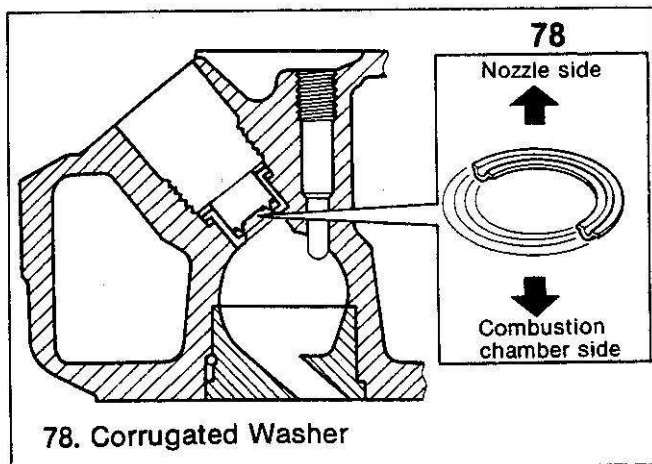

Figure 40b. Installing the Corrugated Washer
10. Install washer (80), new heat shield (79) with the flanged up on the cylinder head by tapping on the flange lightly with a brass bar.
11. Install new corrugated washer (78). The corrugated washer should be installed with blue color painted side turned to the nozzle (figure 40b).
12. Washer (77) and nozzle holder.